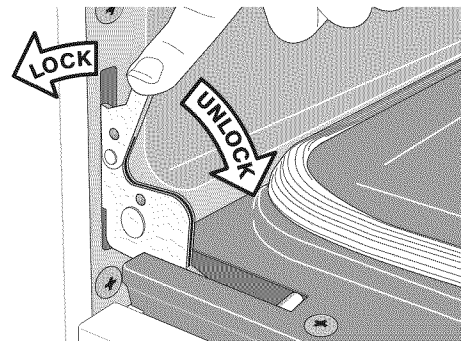

Figure 58: Door hinge locks
2. Pull the door hinge locks on both left and right door hinges down from the oven frame completely toward the oven door (See Figure 58). A tool such as a small flat-blade screwdriver may be required.
4. Push the door hinge locks up toward and into the oven frame on both left and right oven door hinges to the locked position (Figure 58).